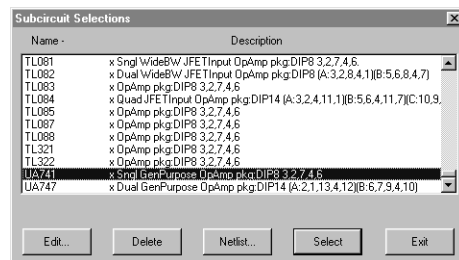

Figure 3.15. Use the Subcircuit Selections dialog box to select a specific model, such as the UA741.
- 2 +V devices [.General/Sources/+V] (1) for Vcc and Vee
- 9 Select **UA741** from the list of available subcircuits (located near the bottom of the list; see Figure 3.15) and click the **Select** button.